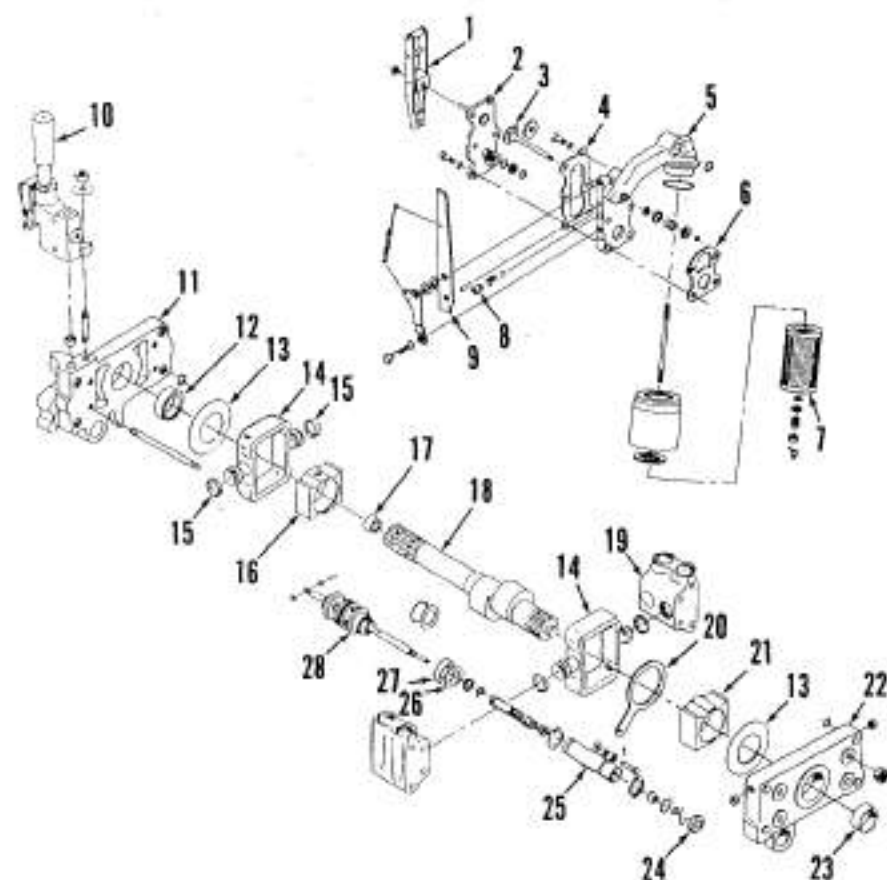

Fig. 237—Exploded view of main hydraulic pump. Thrust washers (13) are not used on early production pumps.
To remove the main hydraulic pump on models not equipped with ipto, Multi-Power and/or auxiliary hydraulics, first drain hydraulic oil. Remove lift cover as outlined in paragraph 216. Remove the adjusting block and upper tube and spring from servo valve (10—Fig. 237). Collapse and remove the drive shaft coupler and remove pto output shaft. Remove dowel pins (P—Fig. 228) from each side of differential housing, then lift hydraulic pump out through top opening of housing.
nect pressure line at Multi-Power/pto pump if so equipped. Support transmission housing and differential separately, remove retaining bolts and separate rear of tractor from transmission housing. Remove pump mounting dowels (P—Fig. 228) from each side of differential housing. Disconnect hydraulic pipes from the pumps and remove tube and spring from pump servo valve (10—Fig. 237). Slide pump assembly forward through front opening of differential housing.
Remove clip retaining control lever (1—Fig. 237), then slide control lever from control valve (28). Remove rollers and pin from end of control valve actuating rod. Remove filter assembly and intake housing (5) from pump.
**229. VALVE CHAMBERS.** Both valve chambers (19—Fig. 237) are identical and interchangeable, and each contains two sets of valve components (5 through 12—Fig. 240). To disassemble the chamber, remove snap ring (12) and thread a 1/4 inch UNC bolt into plug (11) to provide leverage. Plug can be pulled by hand. A reseating reamer (Tool No. N-6007A) is available which dresses both seats in one bore at the same time. If tool is used, remove only enough metal to smooth the seats. All parts are available individually.
**230. INTAKE HOUSING.** The response control valve and nonreturn valve are contained in the intake housing (5—Fig. 237). Refer to Fig. 241 for an exploded view of intake housing and related parts.